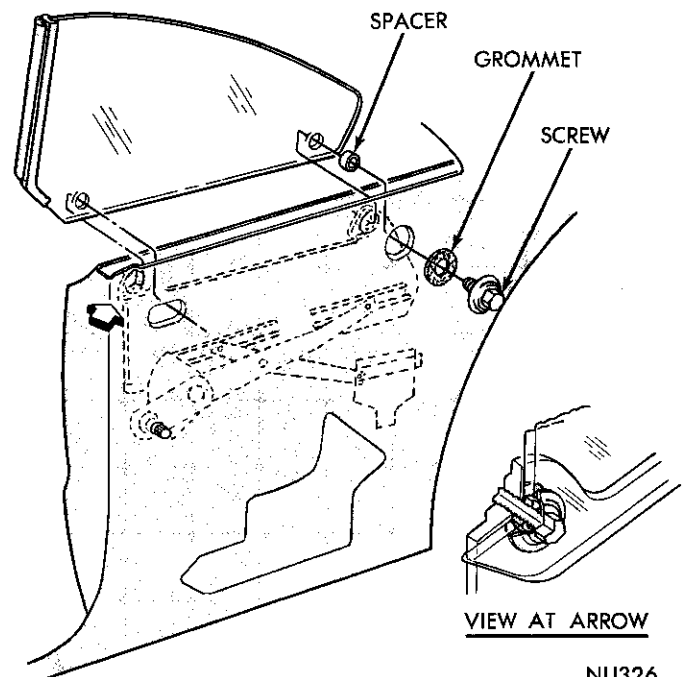

Fig. 69—Glass Replacement
- (1) Align glass lower frame to glass attaching screws with access holes in quarter inner panel (Fig. 69).
- (2) Support glass, remove lower frame to glass at-